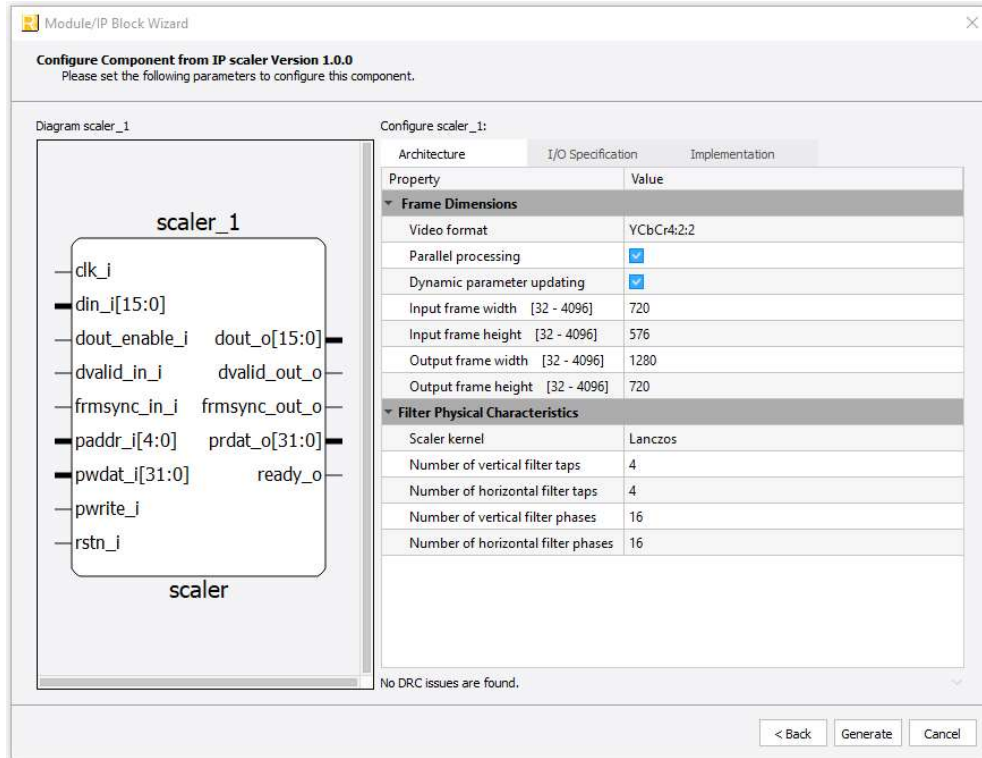

Figure 3.2. Configure User Interface of 2D Scaler IP Core
3. In the module’s dialog box of the **Module/IP Block Wizard** window, customize the selected 2D Scaler IP Core using drop-down menus and check boxes. As a sample configuration, see Figure 3.2 .For configuration options, see the Attribute Summary section.